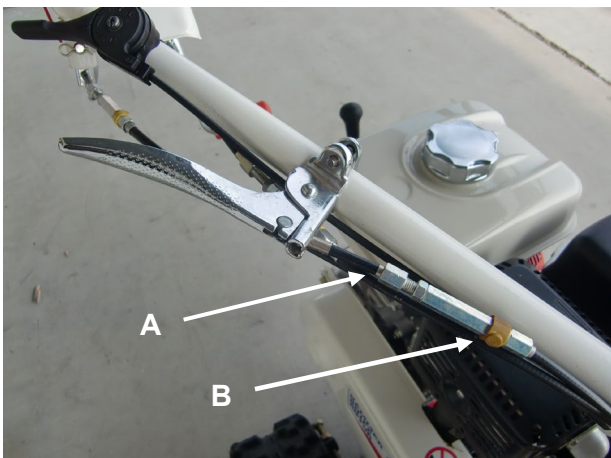

Figure 20
- If it is difficult to free the handlebar, unscrew the nut (A, Figure 20,21), then screw the nut B to increase the wire tension. When the adjustment has been performed, screw the nut A again.
- If the handlebar doesn't lock properly, unscrew the nut (A, Figure 20,21), then unscrew the nut A to decrease the wire tension. When the adjustment has been performed, screw the nut B again.